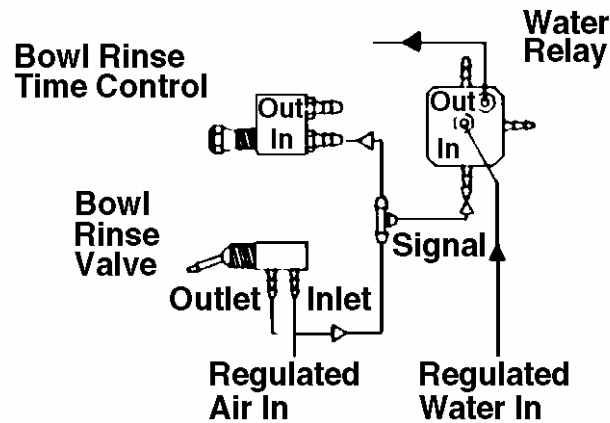
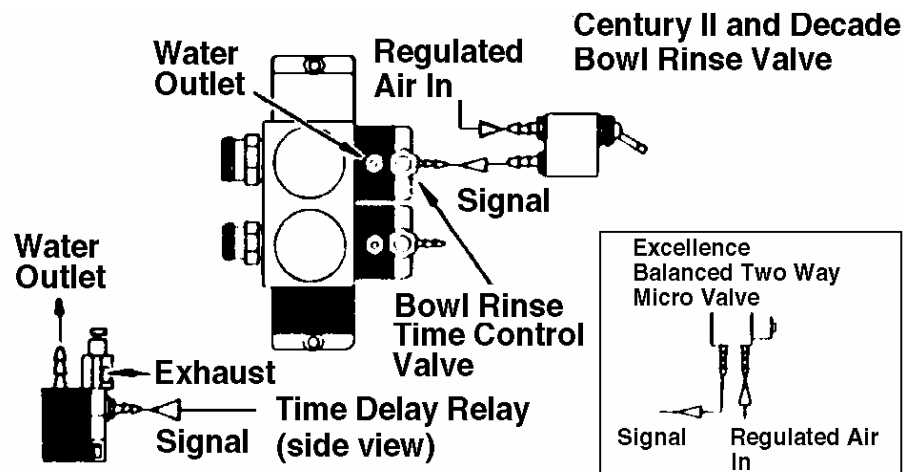
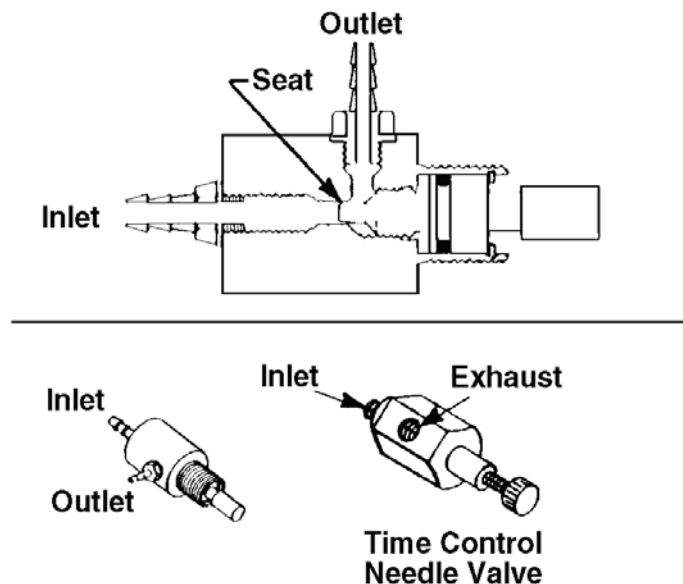

Figure 5-9. Filter-regulator utilities system.
Figure 5-10. Utility module system.
Figure 5-11. Time control needle valve.
The automatic bowl rinse system consists of an air-actuated water relay valve, a momentary two-way valve, and a needle valve. A single touch of the two-way valve provides a steady stream of water for rinsing the cuspidor bowl. There are two types of systems with which you may work: an automatic bowl rinse system used with the filter-regulator utilities system, shown in figure 5-9, and the automatic bowl rinse used with the utility module system, shown in figure 5-10. Flipping the two-way valve applies air pressure to the signal inlet on the water relay, thus opening the relay and allowing water to flow from the nozzle. The signal air pressure begins to bleed down as air exhausts through the time control valve. The setting of the time control valve determines the speed with which the pressure bleeds down. When the signal air pressure drops sufficiently, the water relay closes and the cycle ends. The bowl rinse time is factory pre-set at 25-30 seconds. If the bowl rinse does not shut off automatically, you must troubleshoot the malfunction using the following procedures.
- (1) Remove the time control valve (or the tubing going to the time control valve for systems as in figure 5-9). The water should shut off immediately.
- (2) If the water shuts off, there is an obstruction in the time control valve. For systems as in figure 5-9, refer to the instructions for needle valves below (refer to figure 5-11). For systems as in figure 5-10, clean the valve inlet.